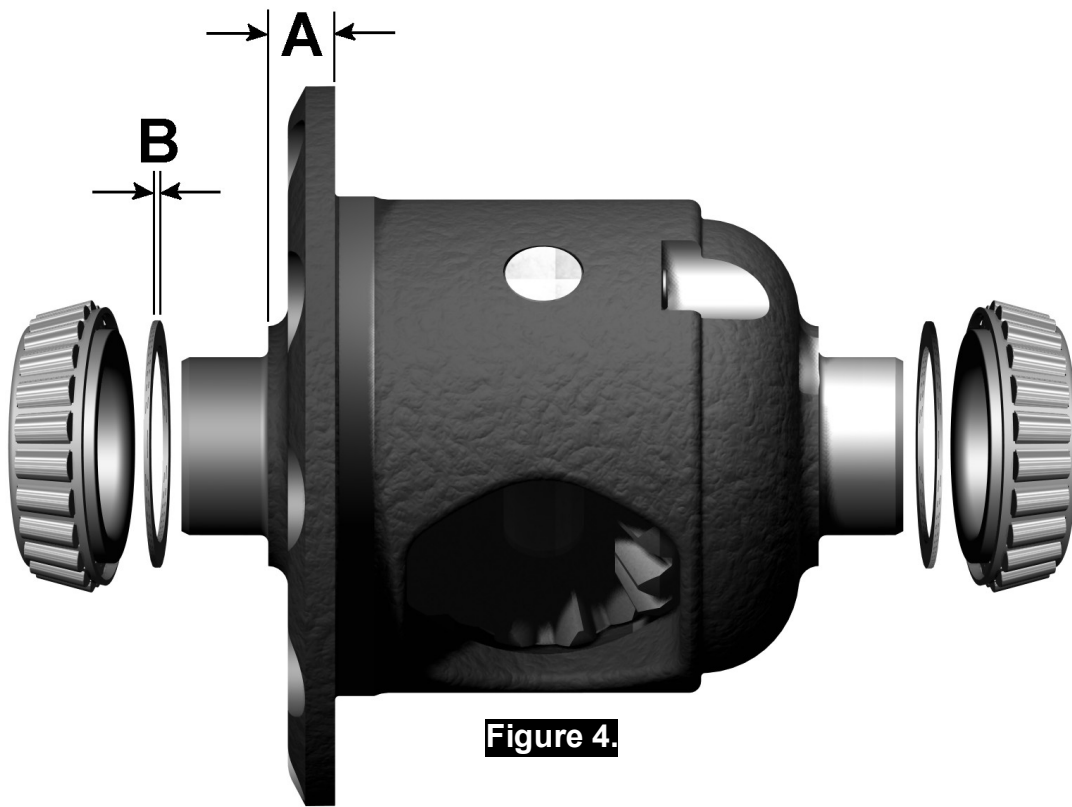

Figure 4.
- ☐ Using a caliper or similarly accurate measurement method (i.e., able to take accurate measurements within 0.04mm [0.0015"]), measure the distance from the bearing shoulder to the ring gear mounting face (shown as 'A' in Figure 4.) and record this measurement as 'A'.
- ☐ Measure the thickness of the shim pack removed from the ring gear side of the differential carrier (shown as 'B' in Figure 4.) and record this measurement as 'B'.
- ☐ To increase the amount of backlash, reduce the shim thickness 'D' (Fig. 4.) and increase the shim thickness 'E' (Fig.8.) by the same amount. Reverse this step to decrease the backlash.